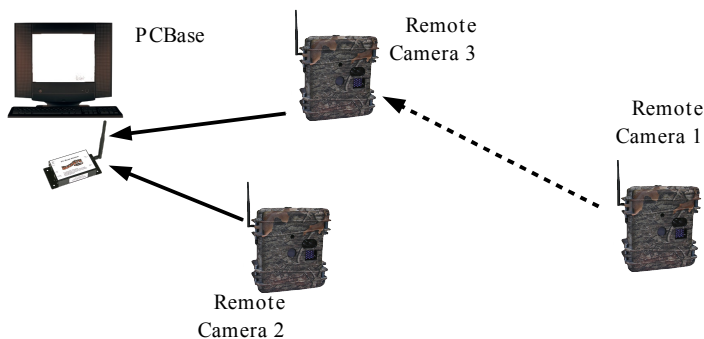

Figure 2. Repeater configuration
In Figure 2, Camera 1 needs to be set to transmit pictures through Camera 3.
**Example in Figure 2.**